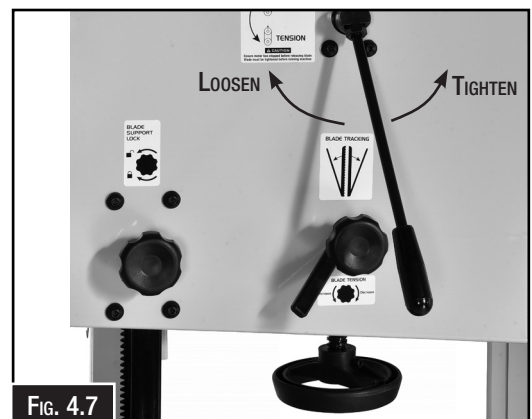

FIG. 4.7
4. Loosen the blade tension by rotating the quick release tension lever and remove the blade from the guides. (Fig 4.7)